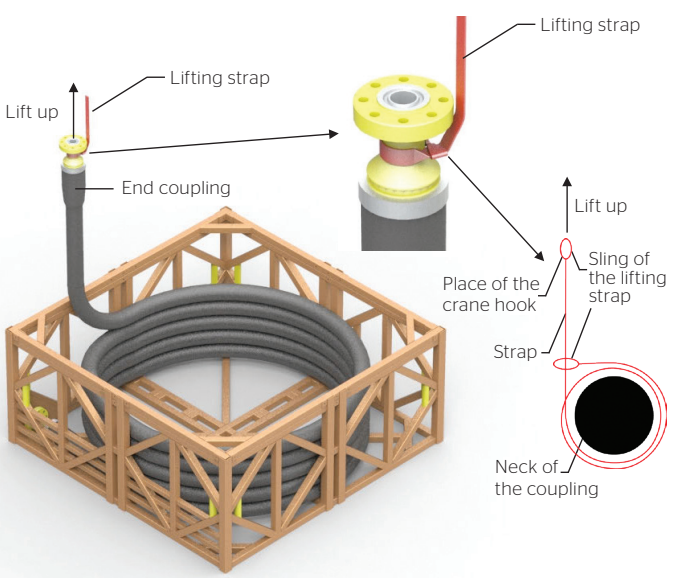
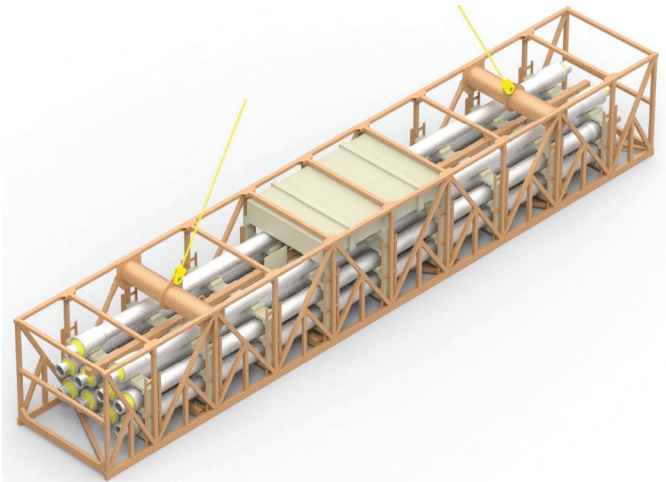

Fig. 18 Alternative method of lifting the flexible line from the crate
Fig. 25 Typical transportation steel pallet
- Alternatively, if the diameter of the end connector of a coupling is considerably bigger than the coupling's neck, the flexible line can be lifted with a lifting strap. See Fig. 18. The lifting strap has to be placed on the neck of the coupling on the finishing end in at least two full turns. The sling of the lifting strap has to be fixed to the crane's swivel hook.
Steel pallet frames are used in situations where the flexible properties are such that reeling is not an option. In such cases, the flexible lines should be lifted as shown in Fig. 18 & 19 unless specific instructions to the contrary are provided in the documentation package provided with the flexible lines. A general arrangement drawing of a steel pallet frame is shown in Fig. 25.